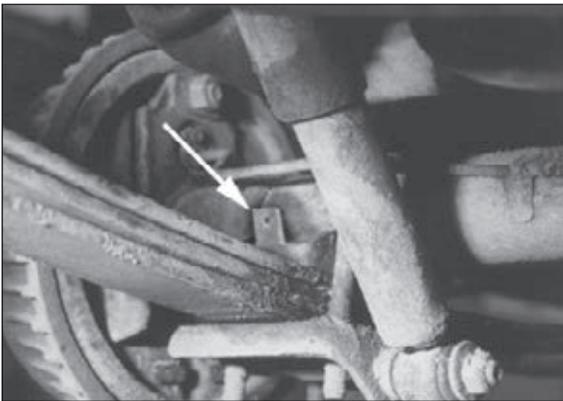

Figure 9
**NOTE:** For some Chevy/GMC S-Series Pickups and Blazer/Jimmy models, there may be a small tab located on the spring perch plate (Figure 9). It will be necessary to trim this tab off for proper placement of the lower bracket. This can be achieved by using a hack saw or die grinder.